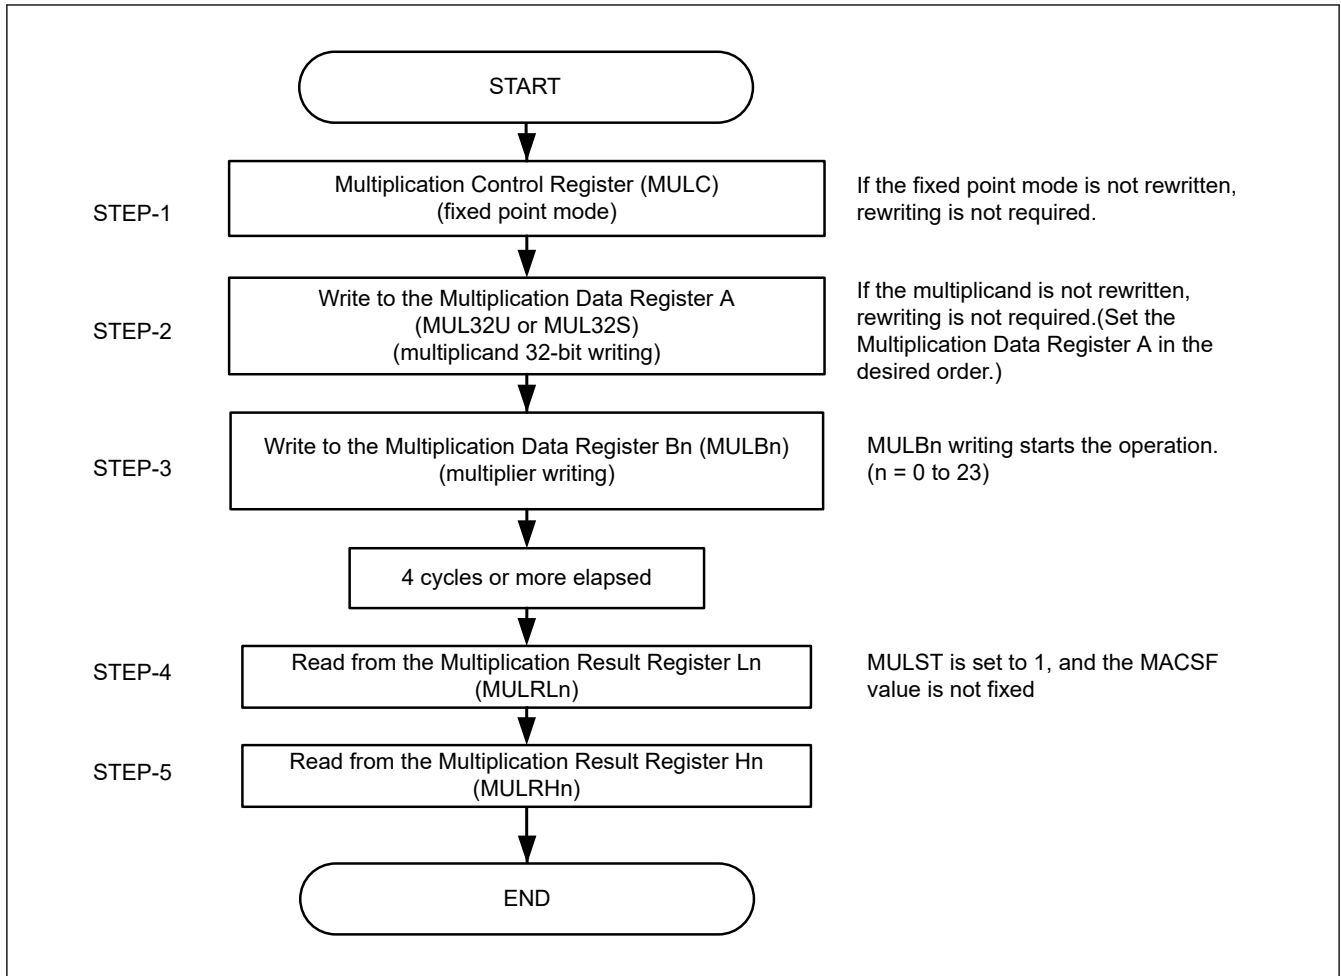

Figure 37.5 MACL operation flow for multiplication
- STEP-1 (as shown in Figure 37.5): MULC writing (enabling/disabling fixed point mode)
1. When switching the fixed point mode, execute STEP-1 as shown in Figure 37.5. For other cases, proceed to STEP-2 in the figure.
Figure 37.5 shows the flow when executing a multiplication operation.